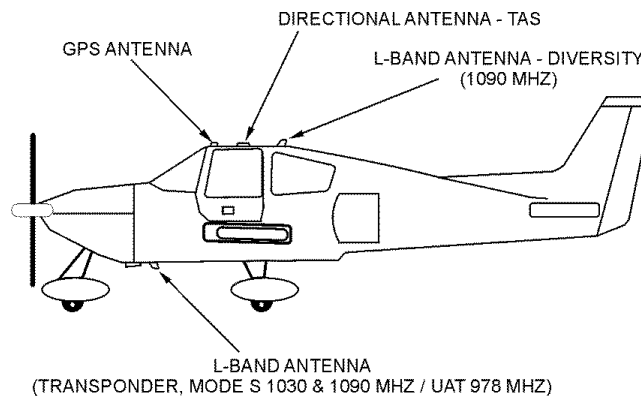

Figure 2-13: Example of Antenna Mounting Locations
- An example of antenna placement is shown in Figure 2-13. Refer to the aircraft manufacturer's data and the antenna manufacturer's installation instructions to mount the antenna. The installer may use other FAA approved data to gain a separate antenna installation approval. Four L-band antenna location configurations are available and are detailed below:
- The optional Diversity L-Band antenna (1090 MHz) must be mounted vertically on the top of the aircraft as shown in Figure 2-13. Horizontal separation from the bottom mounted L-band antenna must be no more than 25 feet (7.6 meters).